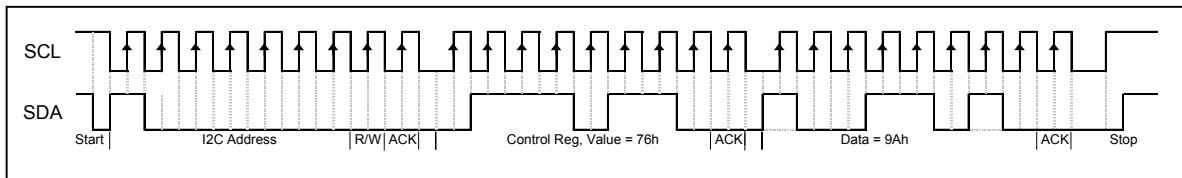

**FIG. 2 – Read X & Y Values over I2C Bus**
IMPORTANT: In order to keep X & Y values paired together or “in synch.”, X register data should be read in an I2C sequence which reads both the X & Y registers as described in Sec. 3.2.1. and Fig. 2.
The Y register should be read in a single I2C sequence that reads the X Register first immediately followed by the Y register as described in Sec. 3.2.1. and Fig. 2.
- 3.2.1 Read X & Y Values** – When INTn goes low there are new X & Y values available. To read the X & Y values the external I2C Master should perform a read sequence of 2 bytes without providing a register address (Joystick always sends X register value followed by Y register value for any 2 byte read without a register address). INTn will go high (inactive) at the beginning of the read of the Y value (see Fig. 2).
**Important Note:** If a new X & Y value is available before the previous values are read the new values will over-write the old (with the loss of the oldest values). However, in order to keep the X & Y values paired together or “in sync”, it is important that the user read the X & Y values in the a single I2C sequence as shown in Fig. 2. This is also the fastest and most efficient use of the I2C bus.